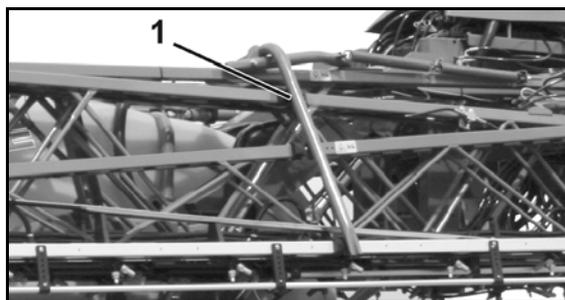

Fig. 9
- Transport locking mechanism (Fig. 9/1) to prevent the **Super-L** boom from folding out unintentionally